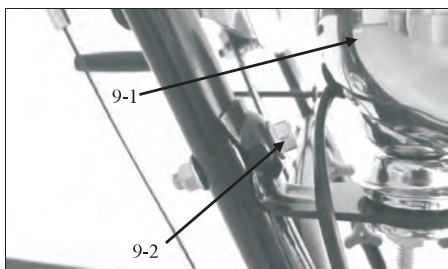

Fig. 9A
1. Fix the lamp (9-1) into the upper handle with bolt (9-2) and nut. (Fig. 9A)